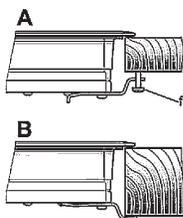

Fig. 9
4. Fix the hooks in the relative accommodations of the body with the screws F. (see Figure 9)